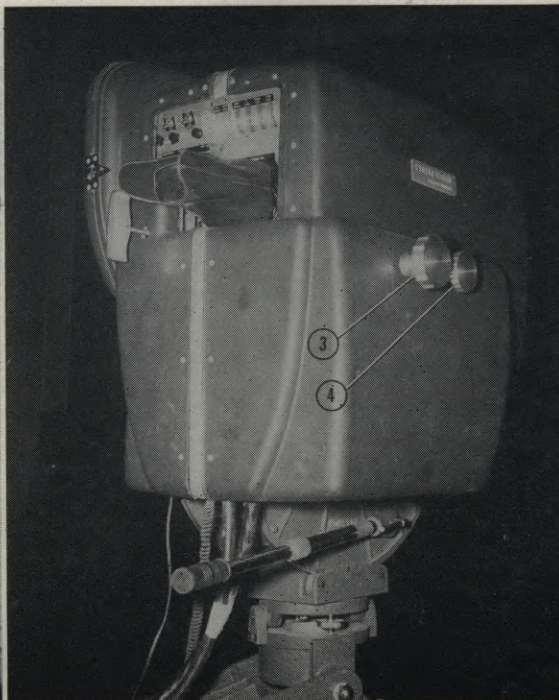

FIG. 5—REAR VIEW showing electronic viewfinder
The power source for this motor is supplied by a power pack (Fig. 5) containing four 6-volt lead-acid batteries wired in series. The battery capacity is eleven ampere-hours, which affords running the camera for approximately 2½ hours or the equivalent of 13,500 feet of film. (An important feature in connection with this motor is the unique clutch on the drive shaft which, in case of a film jam, disengages automatically.) All batteries required for camera motor and sound amplifier are contained in the single battery case (Fig. 5). For some applications of the equipment, it may be found more convenient to separate the batteries and put the "B" battery in the amplifier case together with, say, a 6-volt dry cell "A" battery, and carry the camera batteries separately. A battery charger and voltmeter are also included in the battery case.
FIG. 5—The complete Arricord-35 equipment. The blimped camera is mounted on an Arri tripod and head. At left is the battery case (8) and the amplifier-mixer (9) and microphones.
These are seen in Figs. 5 and 6. Here
(4), Fig. 5, controls the diaphragm
ing knob (3), Fig. 5—all this from